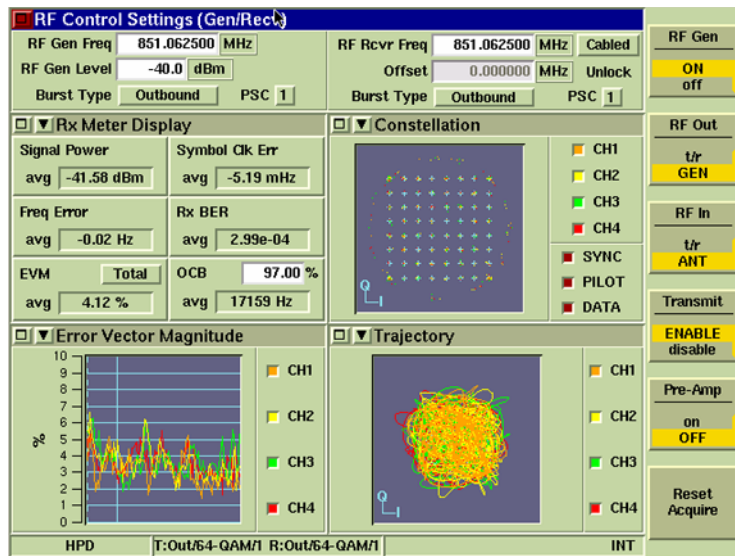

Fig. 5-6 Constellation Tile - 64 QAM Signal
29. Minimize **RF Control Settings Tile** and verify **Constellation Tile** displays a 64 QAM signal as shown in Fig. 5-6.